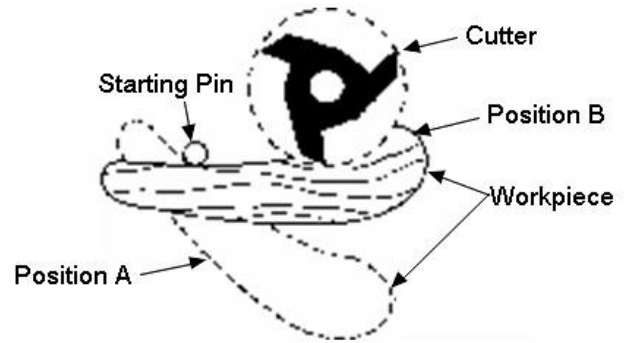

Fig. 40
When the workpiece is not contoured all around, start the cut as shown in Fig.40. With this operation, the workpiece is positioned against the starter pin and the end swung into place to start the cut. When the cut has begun and the workpiece firmly against the collar, swing the stock away from the pin and proceed with cut.
1. The work should be placed in the position A, (Fig. 40), using the starting pin as a support